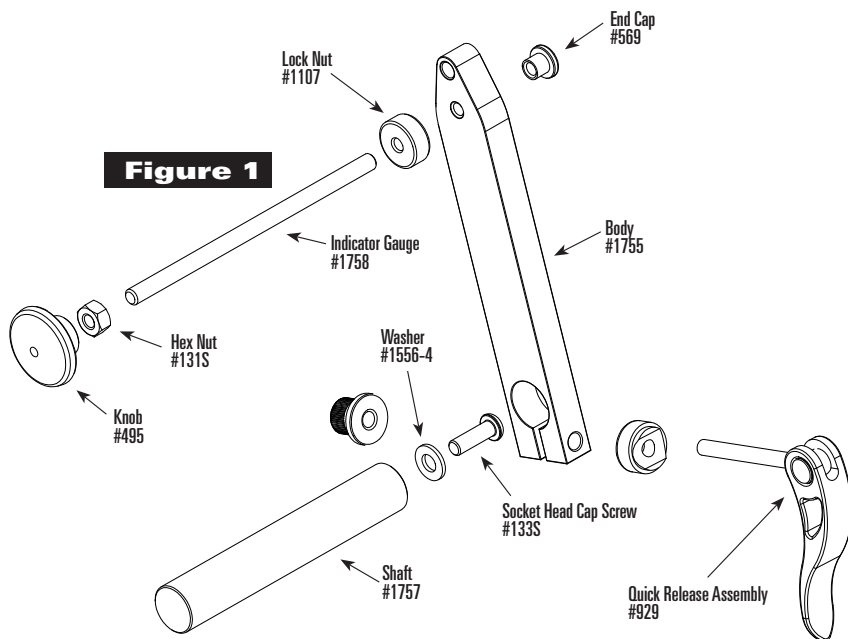

Figure 2
4. Adjust quick release (#929) and indicator gauge (#1758) so end cap (#569) just clears edge of rotor (Figure 2). Thread lock nut (#1107) against body (#1755) to stabilize indicator gauge.